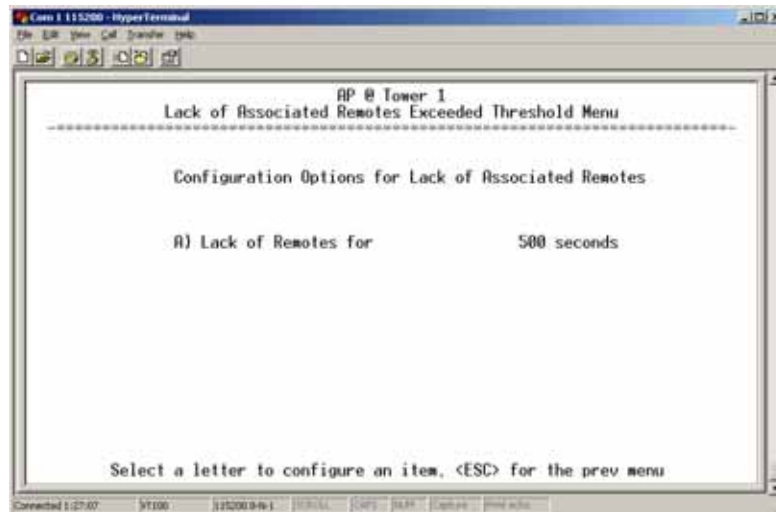

Figure 3-75. Lack of Associated Remotes Exceeded Threshold Menu
- **Lack of associated remotes exceeded threshold**—This setting determines whether or not a switchover occurs when a lack of associated Remote units exceeds the time period set in Figure 3-75 on Page 105. [enabled, disabled; disabled]
- **Lack of Associated Remotes Exceeded Threshold**—This selection opens a submenu (Figure 3-75) where you can view or change the time period allowed for a lack of associated Remotes.